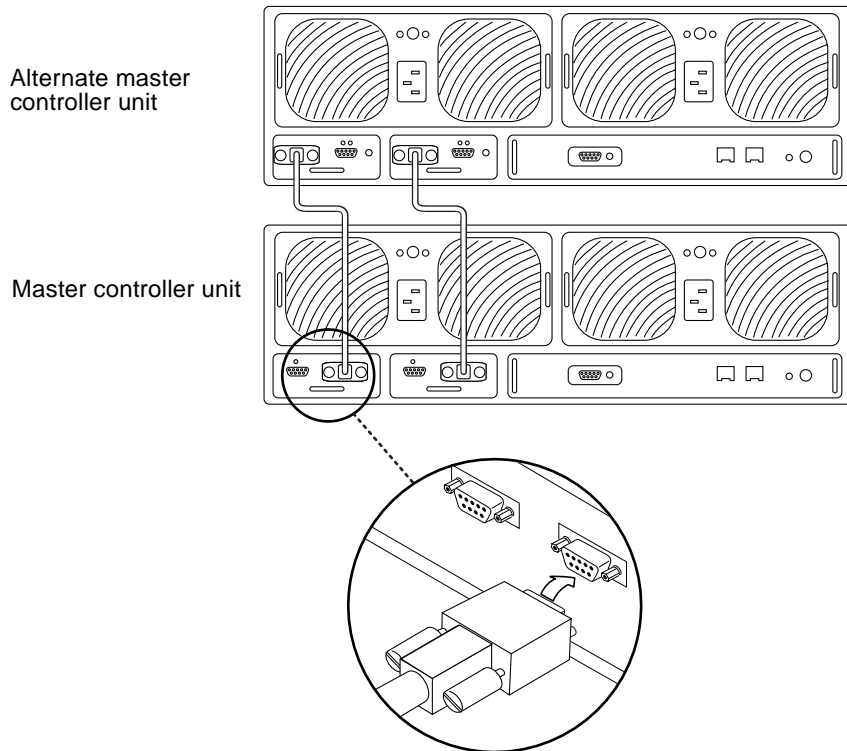

FIGURE 10-1 Connecting the Interconnect Cables
3. Connect the interconnect cables to the interconnect cards as shown in FIGURE 10-1.